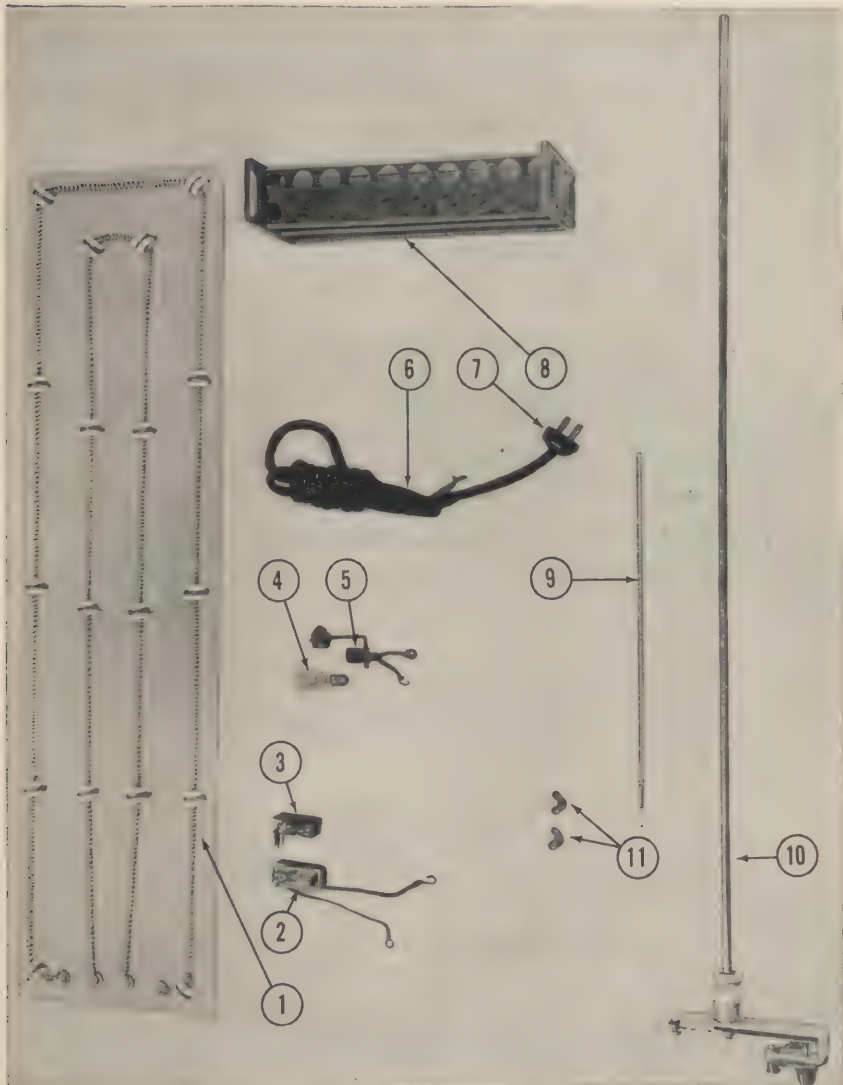

Figure 11. Item No. 4480008, water bath, serological, Wassermann, Gotham Scientific Co.
**a.** To replace heater elements, (1) figure 11. (1) Remove the plate of insulation from the bottom of the bath by removing the ten wing nuts, (11) figure 11, holding it in place.
(2) Remove the wire leads located under the plate of insulation.
(3) Drop the heating element from the bottom of the bath by prying the mounting plate out of its keeper first along one side then the other. Use a screw driver or similar tool for this operation.
(4) Replace with new heating element.
**b.** To replace pilot lamp bulb. (1) Unscrew the bulb, (4) figure 11, from its base.
(2) Replace with new bulb.